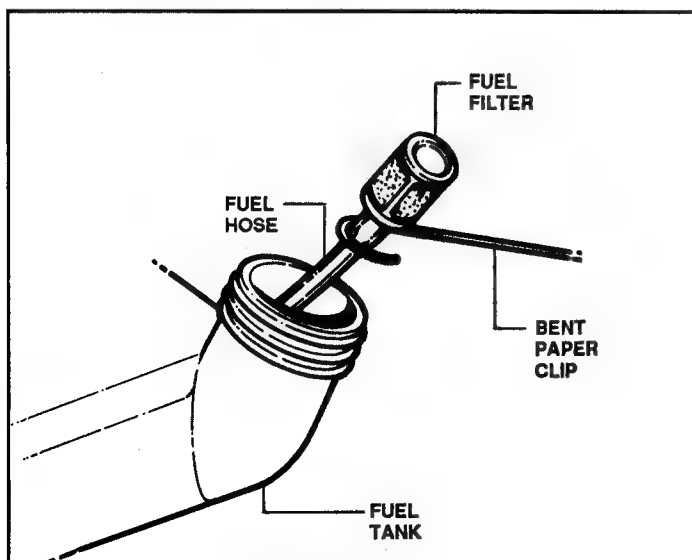

FIGURE 28
3. Retrieve the pickup with a bent paper clip. Replacement of filter/grommet and line can be done without removing the fuel tank from the unit. Never replace the filter without close examination of the fuel line. See Figure 28.